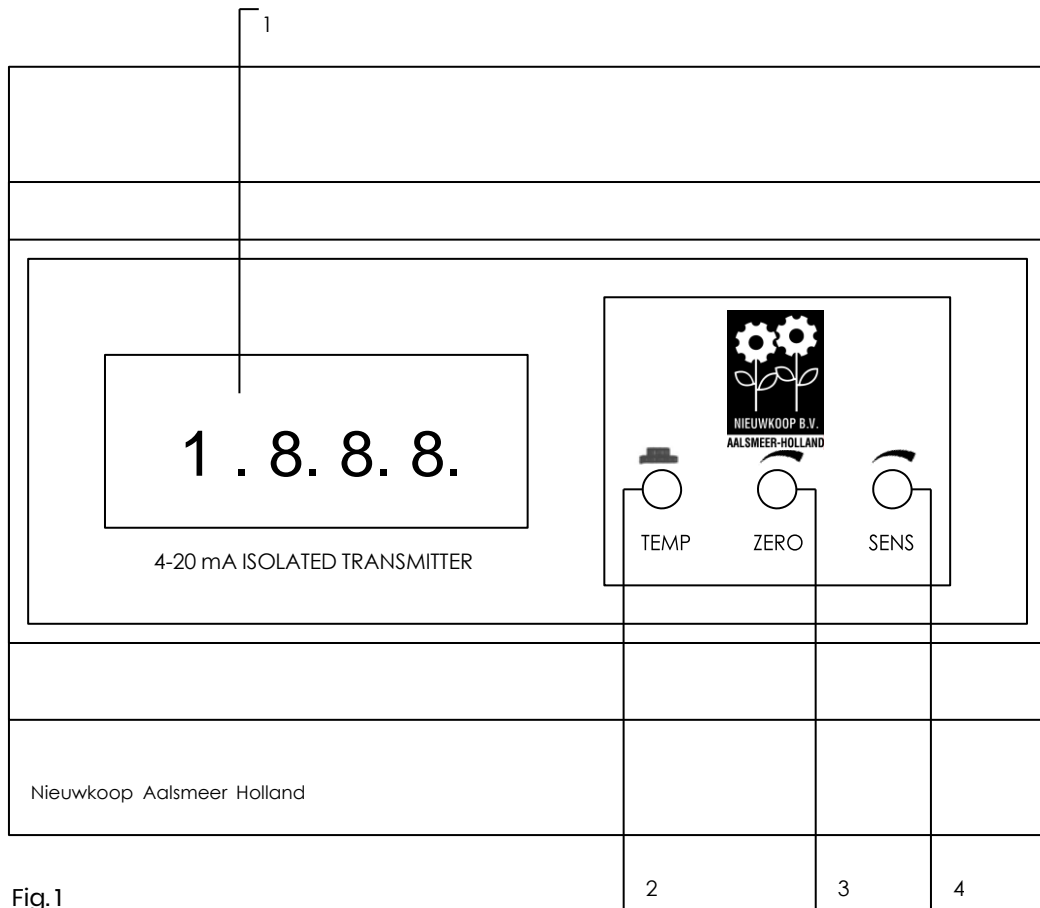

Fig.1
- push the key pad "2" on the front panel (fig. 1) and adjust the trimmer "R5" marked "T MAN" to indicate the desired temperature value on the display (fig.3).